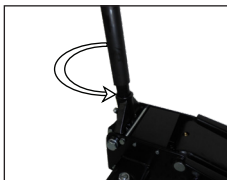

fig 5.
- Use the handle assembly to twist the release valve 1-1/2 turns counter-clockwise (fig.5).